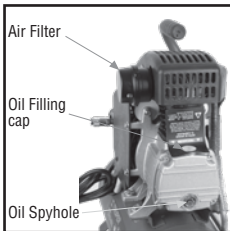

Fig. 1
- Verify oil level through the indicator spyhole set in the compressor rear side. Should the oil level do not reach the middle (red circle), fill the deposit with SAE-30 motor oil until getting the right level. Connect the power cable and operate compressor unloaded to verify is working correctly. (See figure 1)
- The compressor works with SAE-30 lubricating oil. Fill with oil before operating. While running the oil temperature should be below 158 °F. (See figure 1)
- Clean filter regularly once a week. (See figure 1).